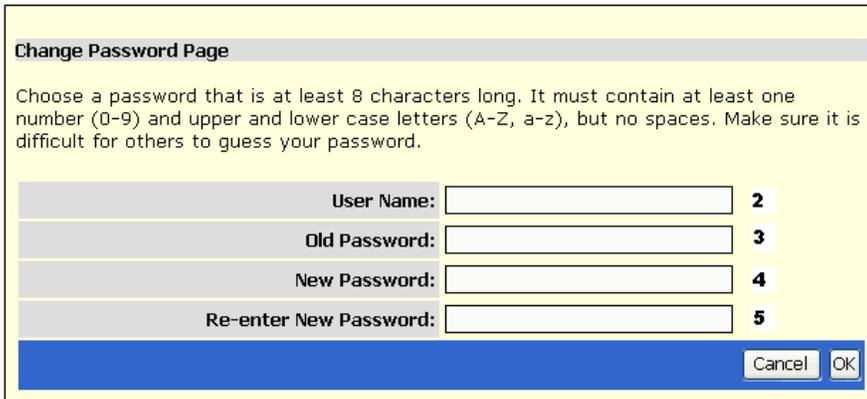

Figure 5.3
1. Select the **'Change Your Password'** link from the ELVIS login screen. The following screen will appear: (Figure 5.3)